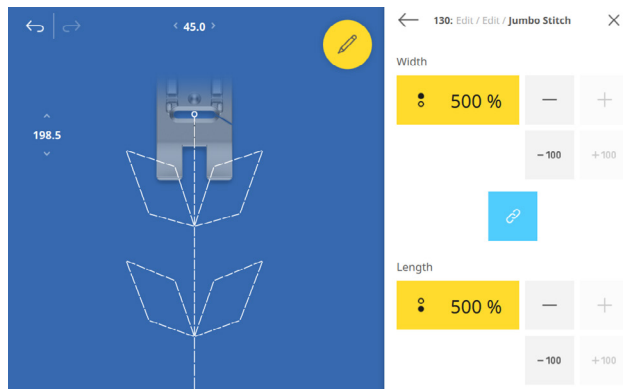

Fig. 12
6. Tap the +100 icon to quickly rescale by 100% (Fig. 12).